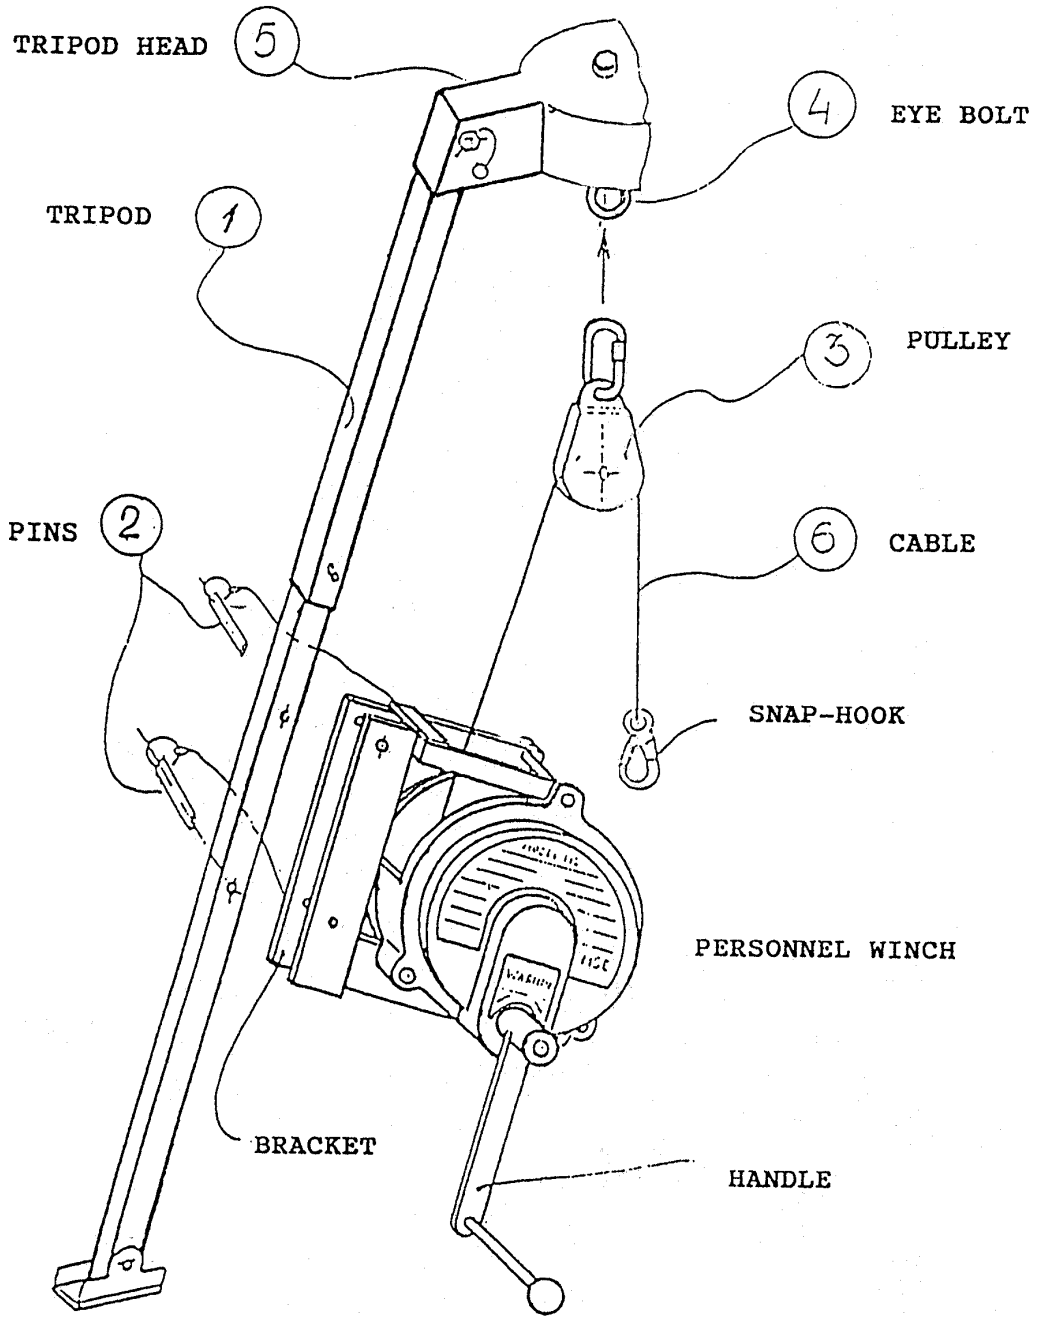

Figure 5. Personnel Winch - Installation Procedures
Attach the Personnel Winch (Figure 5) to the inside of one of the tripod legs (1) making sure the winch bracket is aligned so that both locking pins (2) can be fully pushed in through the leg, firmly securing the unit. Lifting the unit by the winch handle and resting the unit on one's knee will enable the user to easily insert locking pins. Attach a carabiner (narrow end up) off the center eyebolt (4) of Tripod head (5). Crank out enough cable from the unit to extend the end past the carabiner. Place the cable through a pulley (3) (pulley halves will slide apart to accommodate the cable) and attach the pulley to the carabiner. Make sure that both halves of the pulley are attached to the carabiner and that the cable operates freely in the pulley.